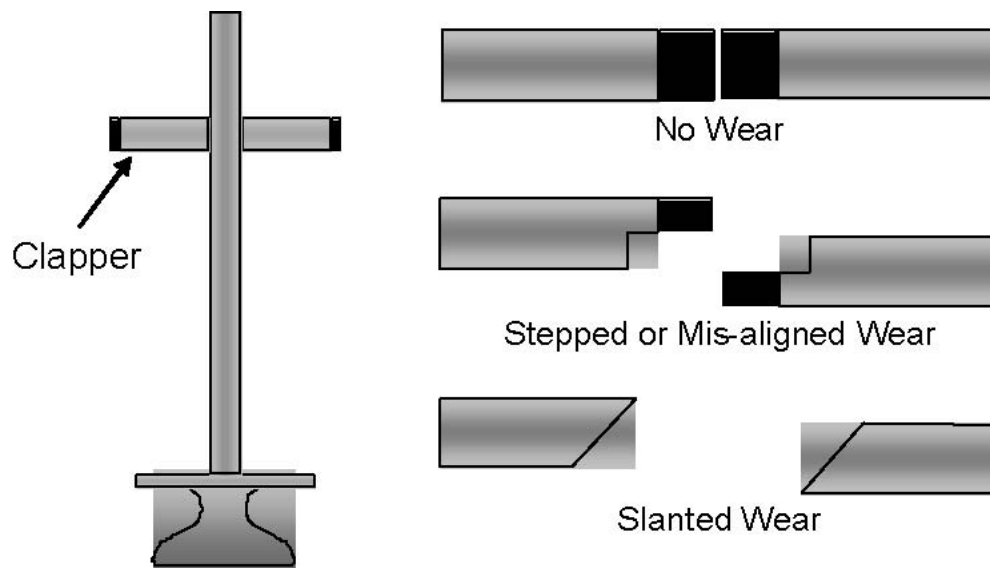

Figure 1: Axial View of Clapper Showing Types of Wear
- (2) **Shingling** – clappers that are no longer abutting each other but are riding over each other. This happens after total misalignment of the clappers.
- (3) **Vertical Wear** – wear/erosion of the mating clapper faces usually due to loss of hard-face coating on one or both faces. The clapper faces are not slanted. Refer to figure 1.
- (4) **Slanted Wear** – wear between the clapper faces which is at an angle (usually 45 degrees). This type of wear shows a condition for the clappers to slide on top/under each other and become shingled. Refer to figure 1.